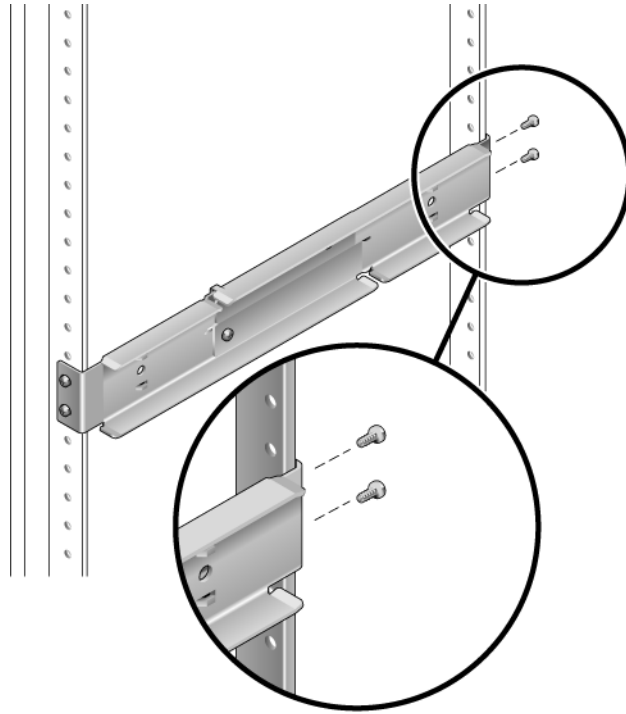

FIGURE 3-17 Securing the Rear of the Adjustable Rails to the Rack
4. **At the rear of the rack, use two screws to secure the rear of the adjustable rails to the rack (FIGURE 3-17).**